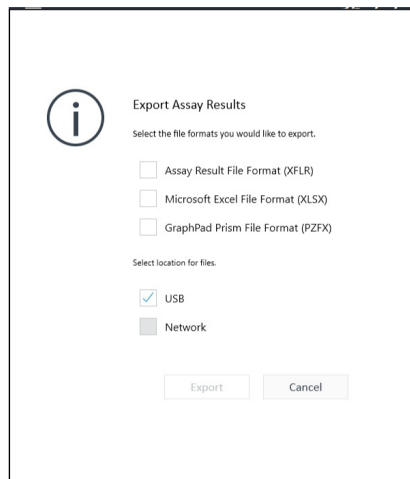

Figure 25. Export options dialog box.
- Export options:** Assay result files may be exported to Microsoft Excel or GraphPad Prism file formats (requires a USB flash drive or shared network directory). See Figure 25. To export these files (either individually or collectively) to a network location or USB, click the individual check box or click **Select All**, and then click **Export**.